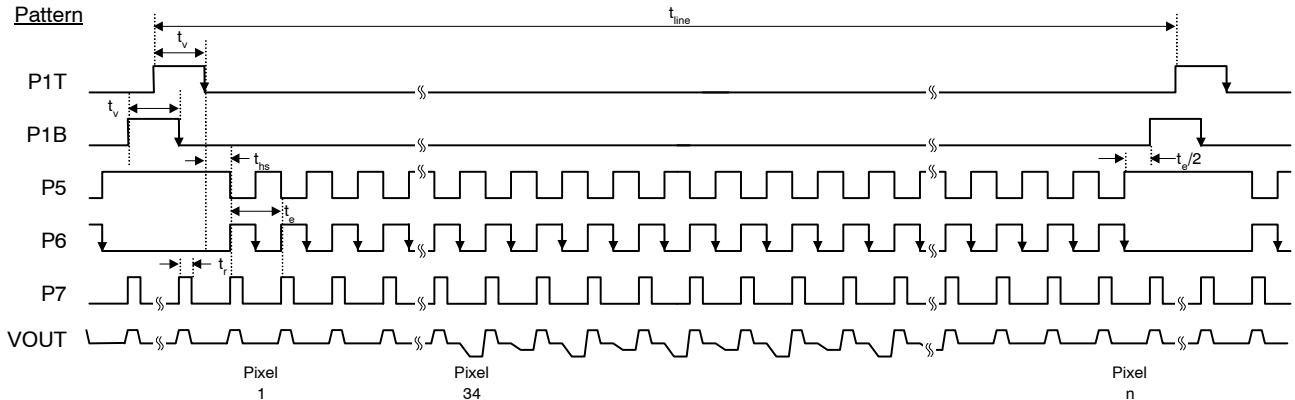
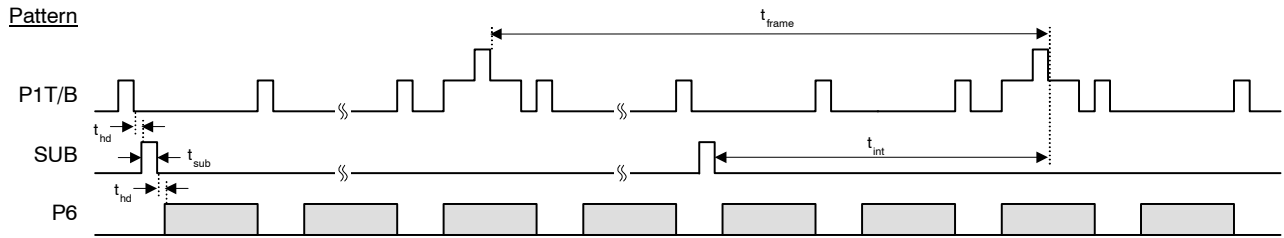

**Figure 23. Photodiode Transfer Timing**
**Figure 25. Pixel Timing Detail**
1. Refer to timing diagrams as shown in Figure 23, Figure 24, Figure 25, Figure 26 and Figure 27.
The timing sequence for the clocked device pins may be represented as one of seven patterns (P1–P7) as shown in the table below. The patterns are defined in Figure 23 and